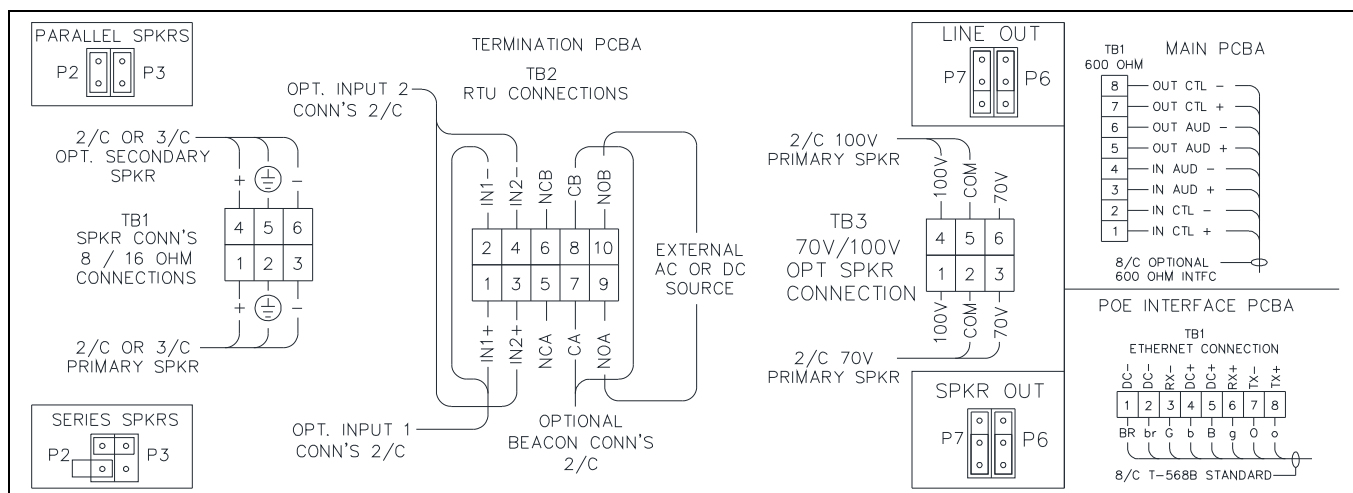

Figure 3. SP2 PoE Connection Diagrams
4. **8-/16-ohm speakers** (see Figure 3):
5. Terminate the RTU inputs and output to terminal block TB2 on the termination PCBA (see Figure 3).
6. Terminate the RTU power source to terminal block TB2 on the termination PCBA (see Figure 3).
7. Terminate the 600-ohm audio connections to terminal block TB1 on the main PCBA (see Figure 3).
8. Terminate the PoE connection to terminal block TB1 on the PoE interface PCBA (see Figure 3).